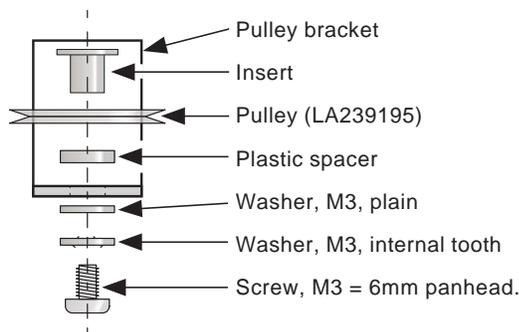

Figure 5.15.5b Assembly of the pulley to the pulley bracket
1. Take the two (smaller) pulleys LA239195 and fit one of these pulleys to each of the support brackets, as shown in figure 5.15.5b. For each pulley, use: 1 M3 x 6mm pan-head screw, one M3 internal tooth washer, one M3 plain washer, a plastic spacer and an insert, all supplied with the kit.